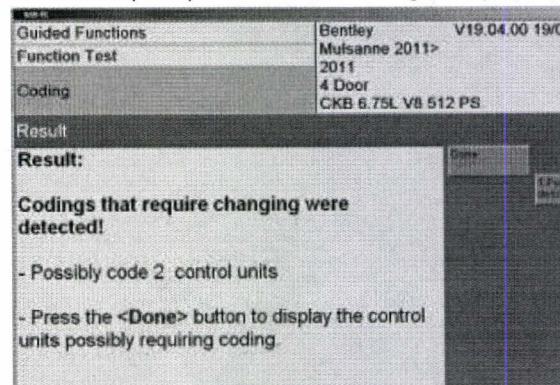

Figure 8
13. The Result screen will show that 2 coding's require changing. As prompted select *Done* (see Figure 8)